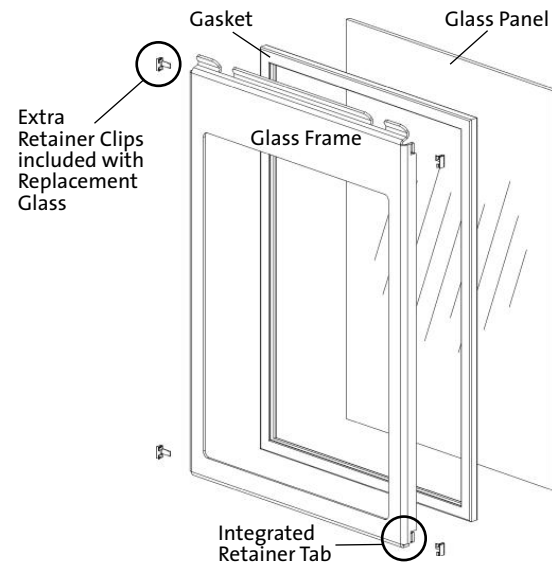

Figure 16.1.
4. The glass panel is held in place by four tabs at the frame corners. Use a screwdriver or small pliers to pry these up just enough to release the glass panel. See fig. 16.1, page 32.